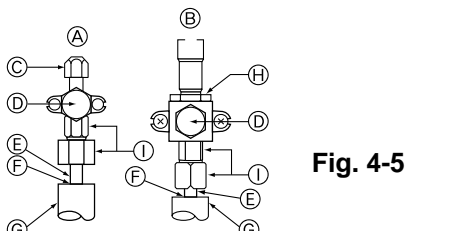

Fig. 4-5
- ① Perform refrigerant piping connections for the indoor/outdoor unit when the outdoor unit's stop valve is completely closed.
- ② Vacuum-purge air from the indoor unit and the connection piping.
- ③ After connecting the refrigerant pipes, check the connected pipes and the indoor unit for gas leaks. (Refer to 4.4 Refrigerant pipe airtight testing method)
- ④ A high-performance vacuum pump is used at the stop valve service port to maintain a vacuum for an adequate time (at least 1 hour after reaching -101 kPa (5 Torr)) in order to vacuum dry the inside of the pipes. Always check the degree of vacuum at the gauge manifold. If there is any moisture left in the pipe, the degree of vacuum is sometimes not reached with short-time vacuum application. After vacuum drying, completely open the stop valves (both liquid and gas) for the outdoor unit. This completely links the indoor and outdoor refrigerant circuits.
- ⑤ Use sealant to seal the ends of the pipe cover around the pipe connection sections to prevent water from entering the thermal insulation.
4.4. Refrigerant pipe airtight testing method(Fig.4-5)